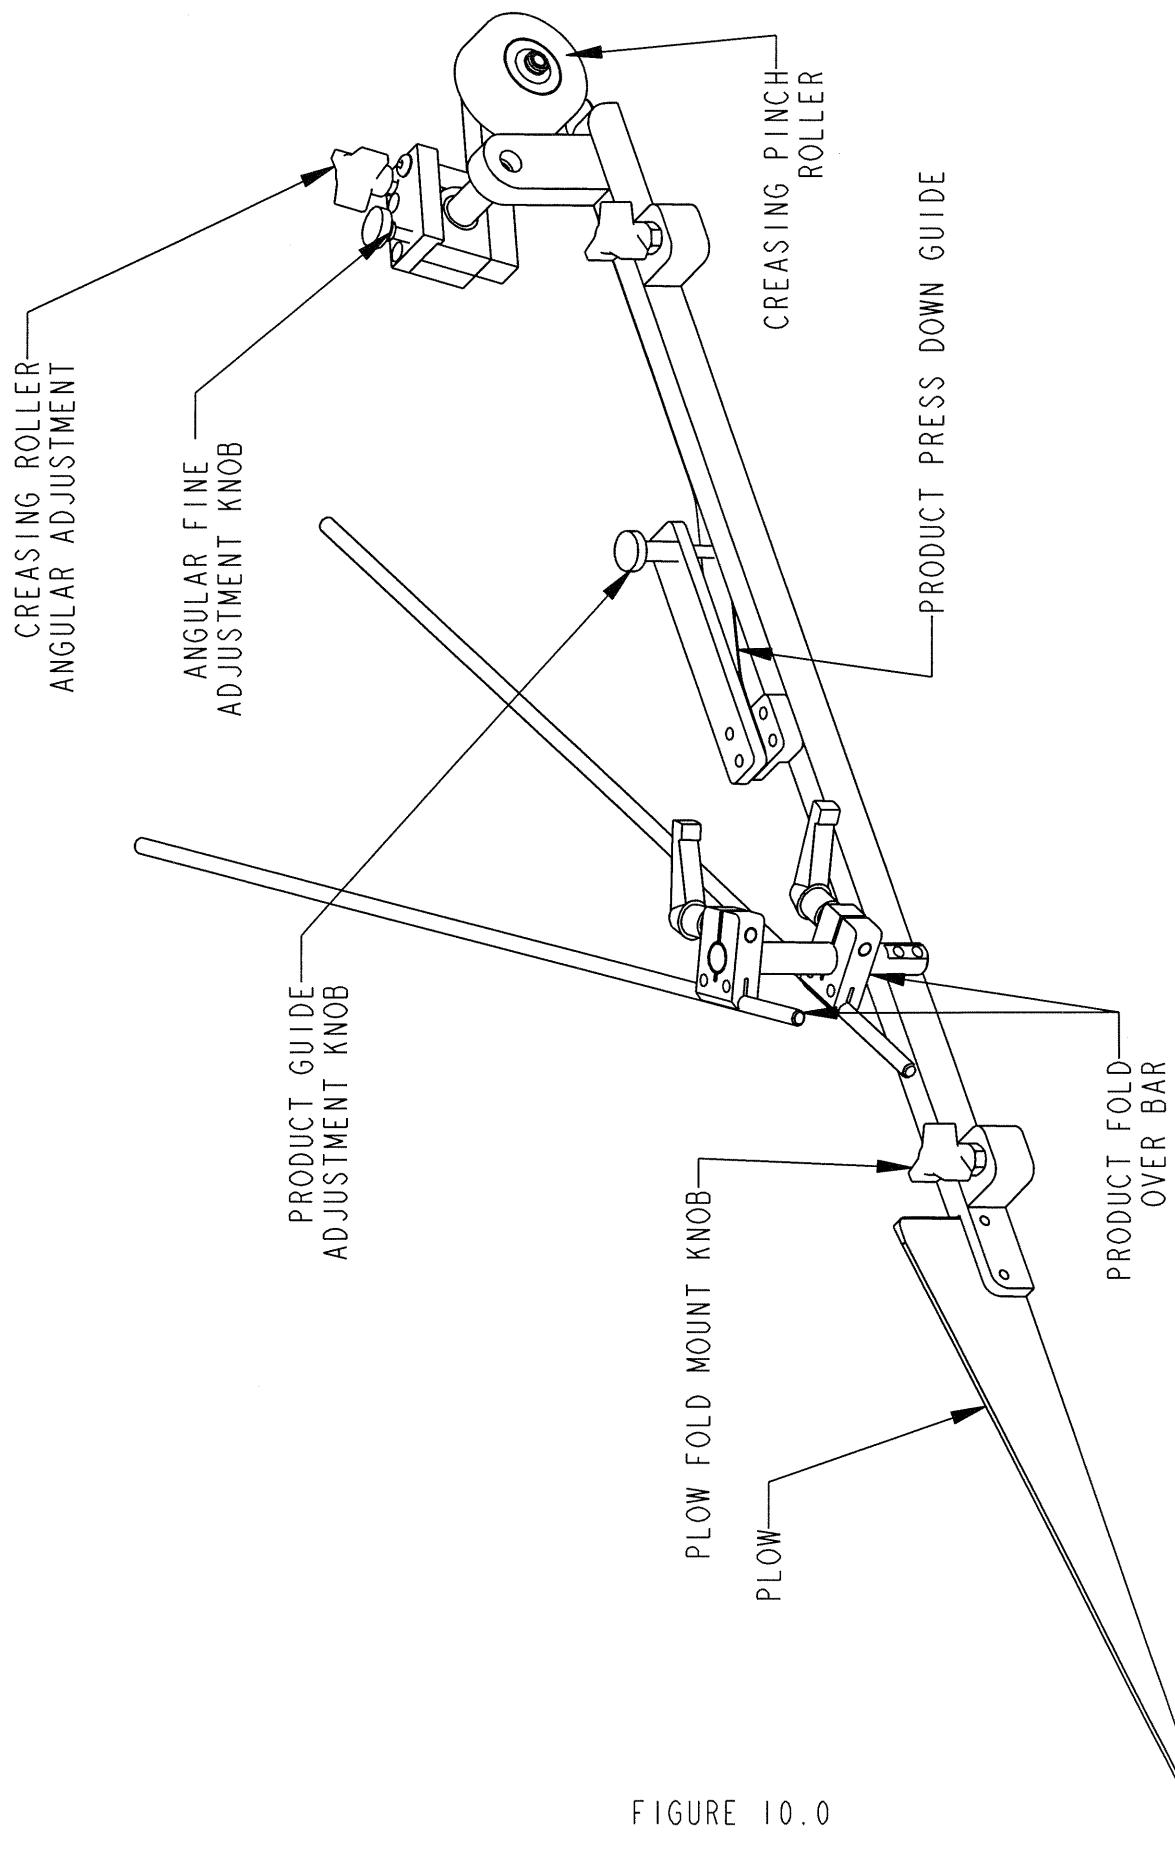

FIGURE 10.0
5.6 Plow Fold Component Descriptions (see Figure 10.0)
3. Jog product through to test the product fold over bar placement and stop the product before going under the product guide bar. If the product doesn't fold over quickly enough the angle of the bar can be adjusted by loosening the clamp screw and rotating the bar assembly. The height of the bar can also be changed to help product fold over. **See Figure 10.0**
4. Jog the product under the product press down guide and adjust the product guide knobs to press the product together right before going under the creasing pinch roller. The guide bar also aligns the folded product edges up before the edge is pressed to form a tight crease. Adjustment of the product press down guide determines the straightness of product fold. Different guide bar settings may be required for different products. **See Figure 10.0**
5. Jog the product under the creasing pinch roller and adjust the creasing roller pressure by loosening the creasing roller angular adjustment knob and placing the roller on top of the folded product. Press down on the assembly to apply pressure to the product with the spring loaded roller and lock into place. Use the angular fine adjustment knob to achieve the desired amount of pressure and lock into place by using the locking knob. The pressure should be set to just press the product enough to obtain a tight fold. **See Figure 10.0**